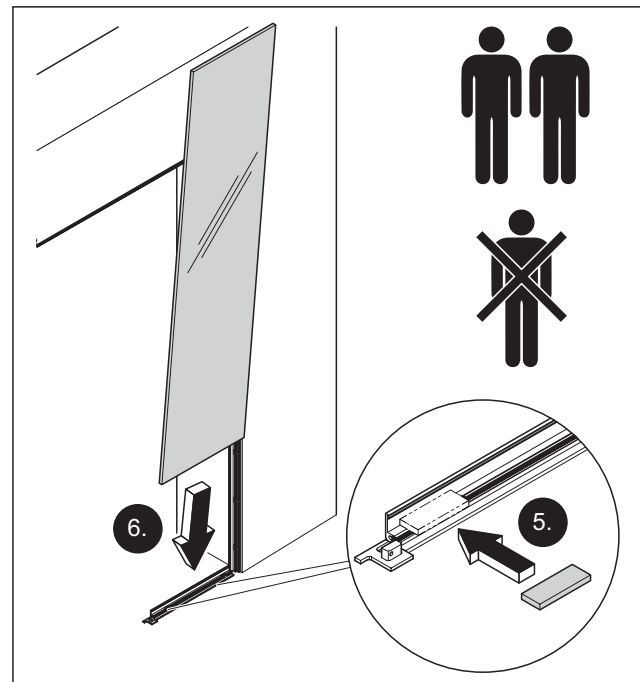

Fig. 33 Working in a pair, place the side panel on the wooden blocks
5. Prepare the lower wooden blocks as needed (Fig. 33).